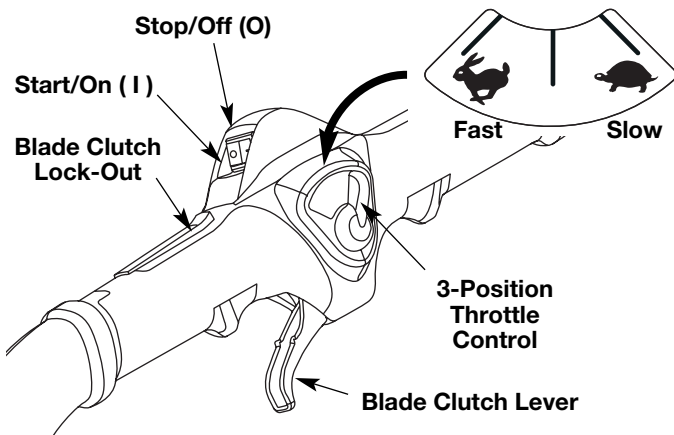
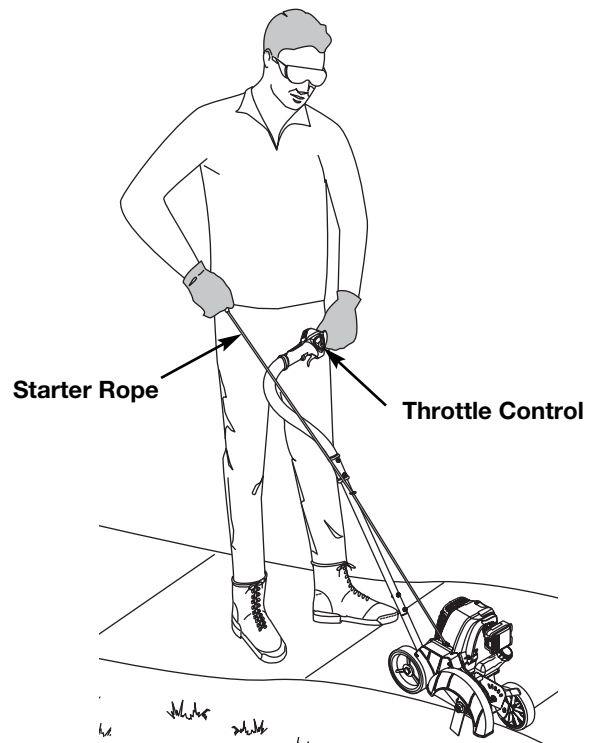

Fig. 8
Fig. 11
WARNING: Avoid accidental starting. Make sure you are in the starting position when pulling the starter rope (Fig. 11). To avoid serious injury, the operator and unit must be in a stable position while starting.
NOTE: There is no need to turn the unit on. The On/Off Stop Control is in the ON (I) position at all times (Fig. 8).
5. Stand in the starting position (Fig. 11). Place the Throttle Control Lever in the Fast position (Fig. 8) and pull the starter rope briskly 5 times.
2. Press and hold On/Off Stop Control in the OFF (O) position until engine comes to a complete stop (Fig. 8).